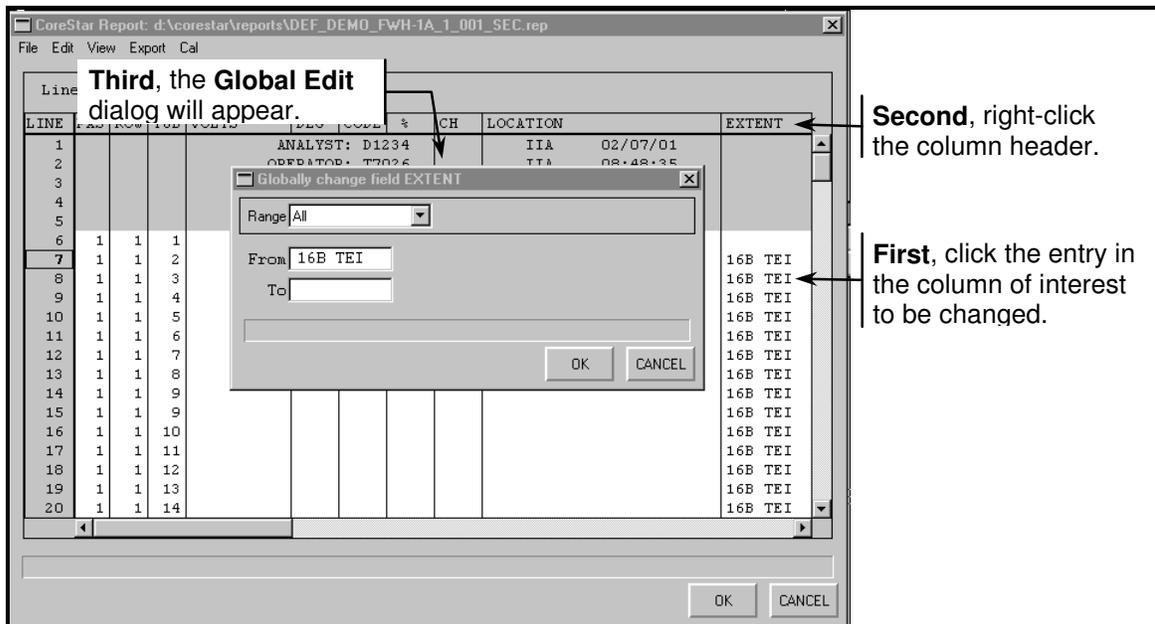

Figure 3-73. Global Edit Dialog
During the final editing stage of an eddy current report, it may be desired to perform a global edit, i.e., change entries in certain columns of the report from one value to another. EddyVISION32 provides two (2) global editing dialogs. Depending on the field to be edited, the appropriate dialog will appear. As an example in Figure 3-73, the **EXTENT** field header was **right-clicked** causing the **Global Edit** dialog shown to appear. This particular dialog type automatically appears when text editing is required. The desired entry in the **EXTENT** column was **first** clicked; therefore, the current value in the field is displayed in the **From** field on the **Global Edit** dialog as shown, i.e., *16B TEI*. Simply enter the new value in the **To** field and click **OK** to change all the matching values in this column to the new value.